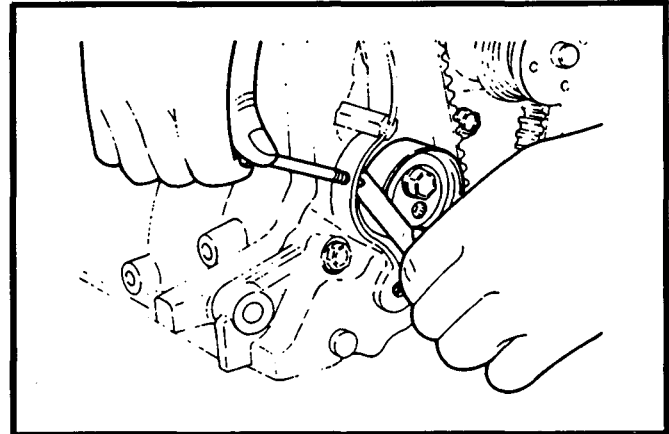

Figure 54.
3. Install a M6 screw (pitch: 1mm, 20 to 30 mm in length) into the place where the plastic cap was removed. Tighten the screw using only thumb and index finger pressure. See Figure 54.
- To protect the surface of the timing belt tensioner pulley place a feeler gauge between the screw and the pulley surface. See Figure 54.